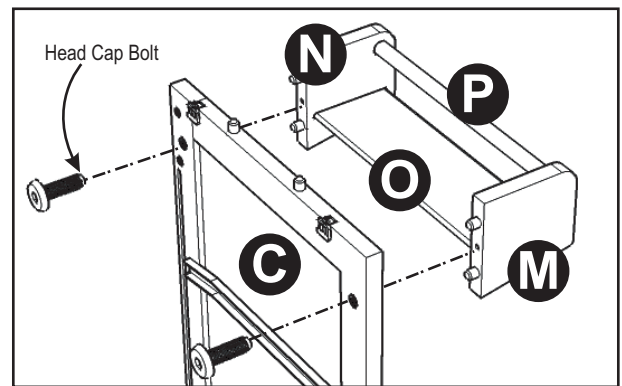

Figure 3
Assemble Side Racks (M), (N), Base Rack (O) and Rack (P), then attach to Side Panel (C) with Head Cap Bolts. (See Figure 3)